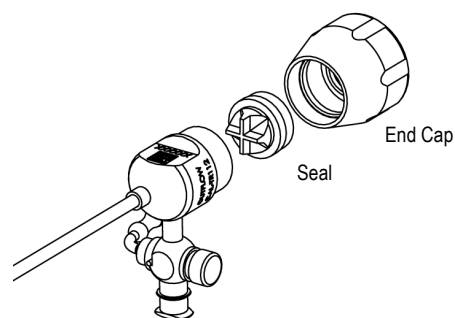

Figure 3. Seal installation
Both the Benesta® Hysteroscope and the outflow channel require installation of single-use seals at the proximal end of their working channels. Figure 3 below illustrates the seal installation process.
2. Place seal within inside end cap in the orientation shown in Figure 3.